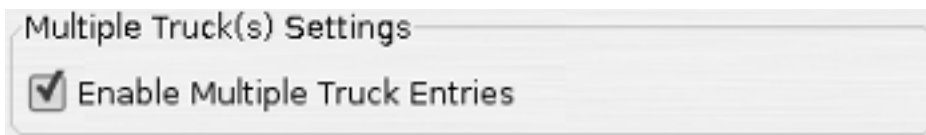

Figure 5.5. Multiple Truck(s) Settings
3. If you want to enable multiple tractor log entry then you should check the "Enable Multiple Truck Entries" box see Figure 5.5, "Multiple Truck(s) Settings"